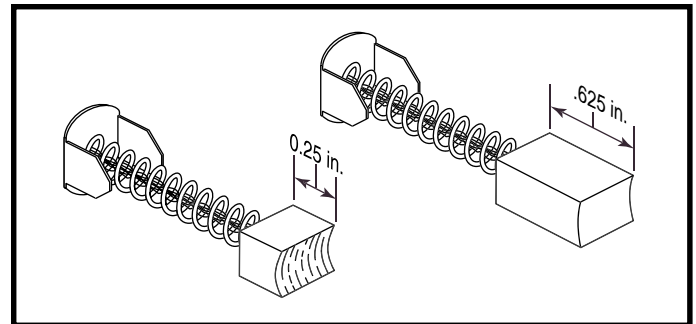

Figure 21. Motor Brushes
7. Remove the motor brushes from the left motor (9) and inspect them.
- If the brushes are worn below 0.25 in. or they are physically damaged, then replace the brushes and retest the system. **See figure 21.**
- If the brushes are not worn below 0.25 in. or they are not damaged, then replace the left motor (9) and retest the system.